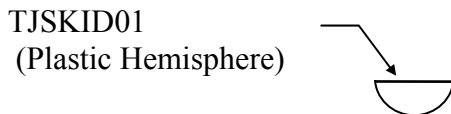

Figure 5. The front skids consist of plastic hemispheres that can be glued to the front of the robot to prevent excessive tilt when the MekArm™ is extended.
- Figure 5. The front skirts consist of plastic hemispheres that can be glued to the front of the robot to prevent excessive tilt when the MekArm™ is extended. 11
The weight of the MekArm™, when extended out front, unbalances the robot and tilts it forward. To keep the tilt at a minimum, two plastic skids (Figure 5) can be glued at the intersections of the front cross piece and the two sides of the TJ Pro™ robot.